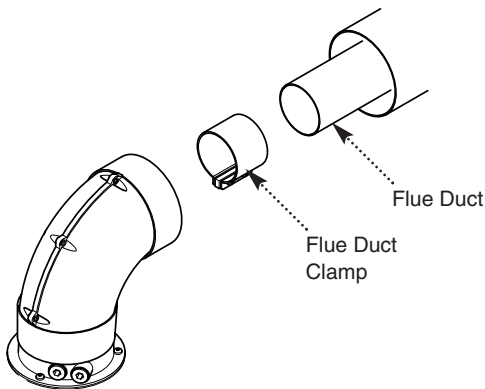

Fig. 31
11. Locate the flue duct clamp on the flue outlet elbow. Draw the flue duct out of the air duct, engage it in the clamp and tighten the screws (Fig. 31).